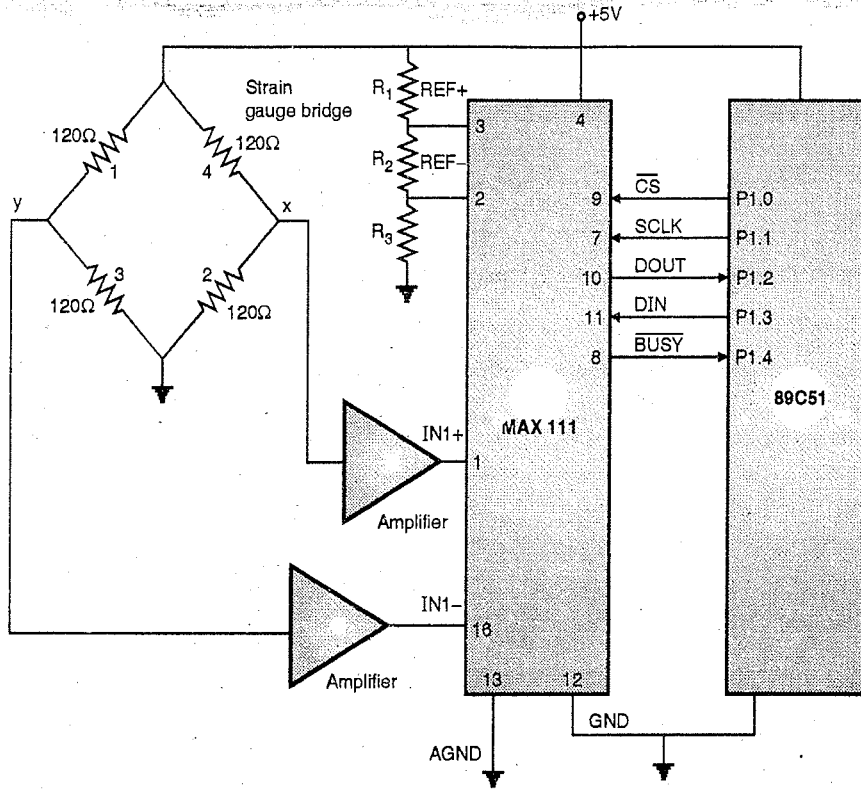

Fig. 3.9.8 : Strain gauge load cell interface with 89C51
- To maximum the sensitivity of the bridge the strain gauges are connected as shown in Fig. 3.9.8.
- Fig. 3.9.8 shows connections using MAX111 serial ADC. It is a 14 bit serial ADC that accepts differential inputs. It supports the serial SPI bus.